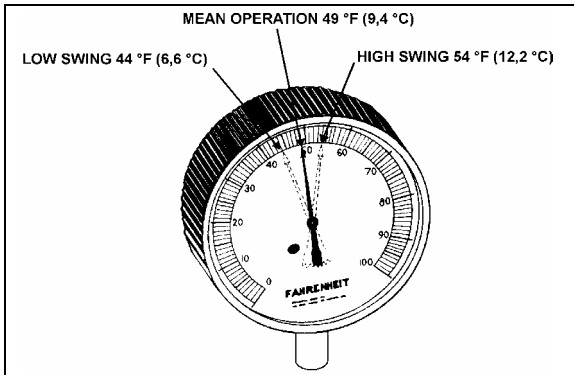

FIGURE 37: HIGH & LOW SWING TEMPERATURE AT REMOTE BULB ²²⁰⁴⁷
- Check approximately 5 readings of pressure at 2-minute intervals and convert to temperature using the temperatures & pressures table (page 36). Likewise check the temperature reading at the remote bulb at the same 2-minute intervals and record the low and high swing readings of the needle (refer to Fig. 37).
Example of readings taken at fig. 37: